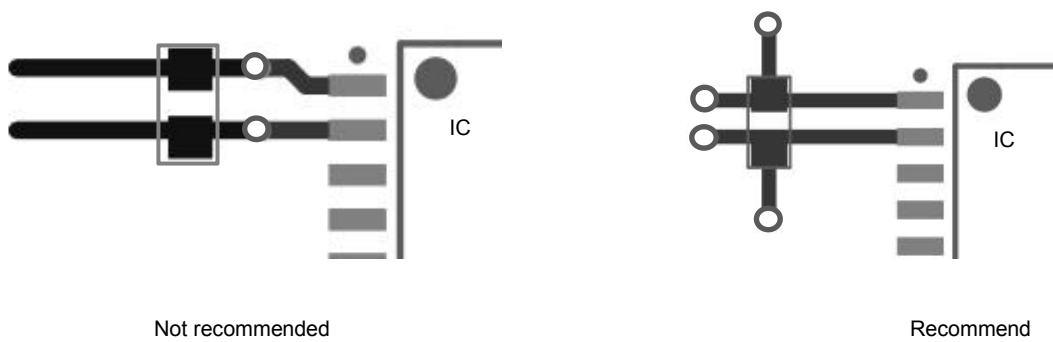

Figure14-2
3. When it is necessary to place vias in the power supply line and the ground wire, the position of the vias should be placed on the outside of the capacitor relative to the chip pins, rather than between the capacitor and the chip, as shown in the figure14-2 below to reduce the number of vias effect of parasitic inductance.